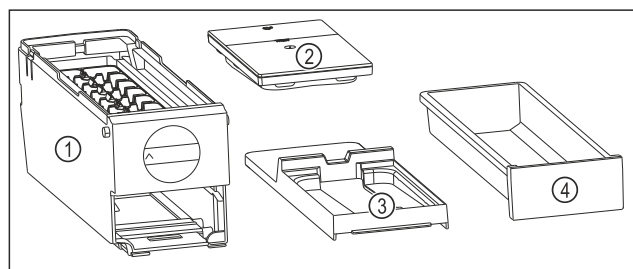

Fig. 122 Components of the EasyTwist-Ice
- EasyTwist-Ice is dismantled into four parts. (see Fig. 122)
- Only dismantle the EasyTwist-Ice into the components shown. (see Fig. 122)
- Clean the EasyTwist-Ice body Fig. 122 (1) as a whole.